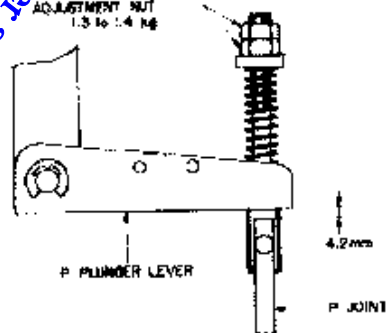

Fig. 2
- 2) Insert a 4.7 mm (edge to U type washer used between the P. Finger Lever and P. Joint (Refer to Fig. 2).
3. PINCH WHEEL PRESSURE ADJUSTMENT (Refer to Fig. 2)